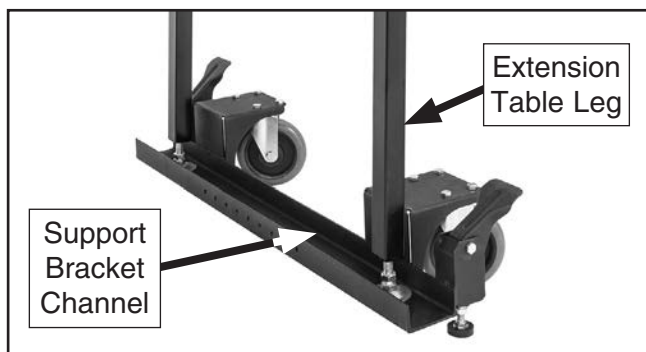

Figure 8. Extension table legs placed in support bracket channel.
8. Install extension table on machine. Then place legs into support bracket and center legs along length of channel (see **Figure 8**).